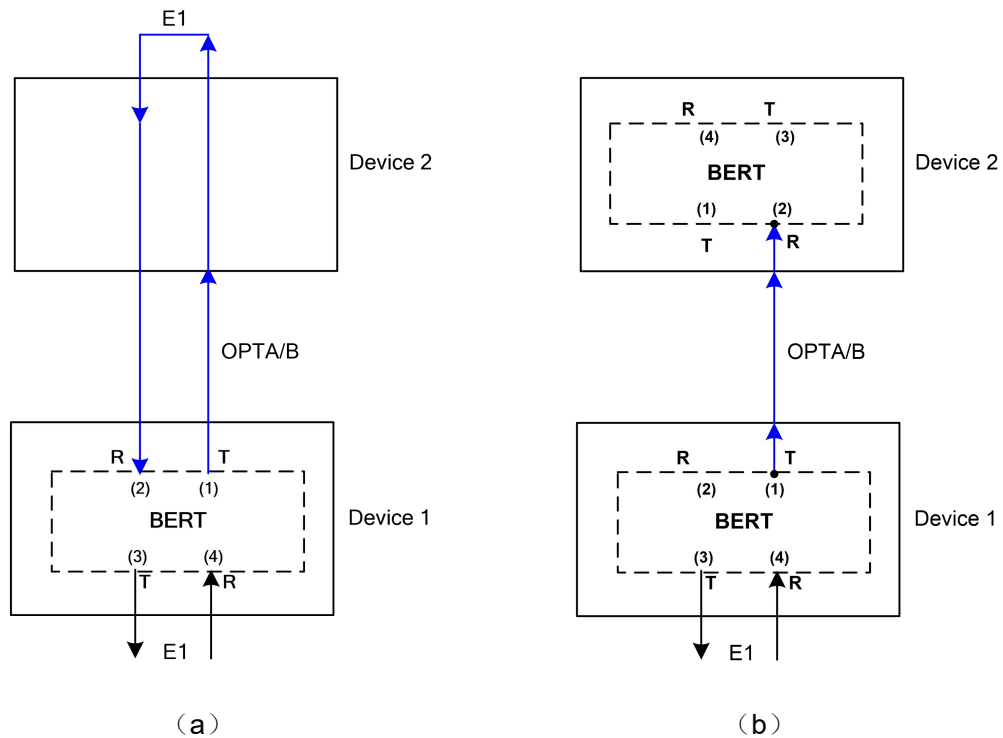

Fig. 5-12-2-1 Application1
choose one channel from E1_1 to E1_8 as the tested channel, map that E1 to the VC-12 channel, open to transmit at position (1) of device 1, thus, the BERT start to insert $2^{15} - 1$ pseudo random sequence into the transmitting VC-12 channel; on device 2, map the corresponding VC-12 channel to the E1 port, configure that E1 as loopback to line side or use cable to loop the E1 port, open to receive at position(2) of device 1, check for bit error static by BERT, as Fig.5-12-2-1 (a) shows; while open to receive at position (2) of device 2 can tests a signal direction line as Fig.5-12-2-1(b) shows.